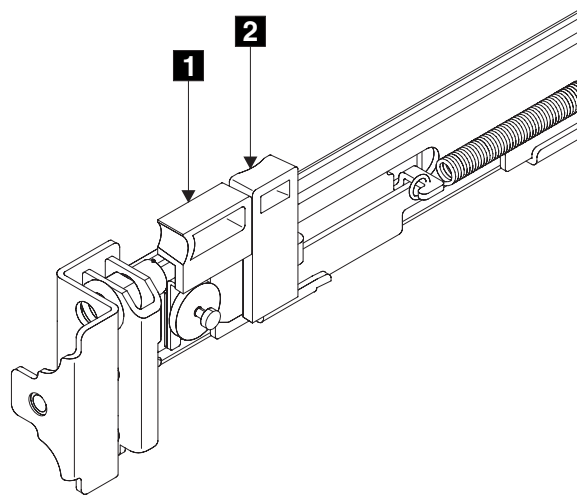

Figure 87. Retracting the latch lock carrier
2. Put your index finger against the side of the latch-lever, **1** in Figure 87, and put your thumb against the front of the latch-lock **2**.